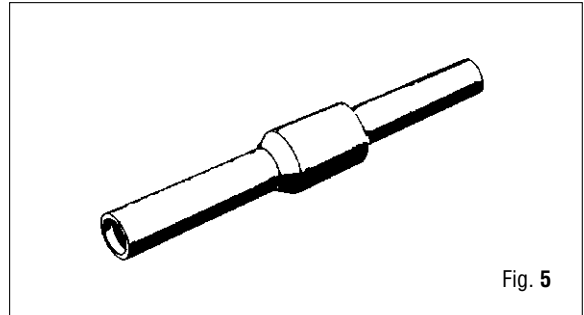
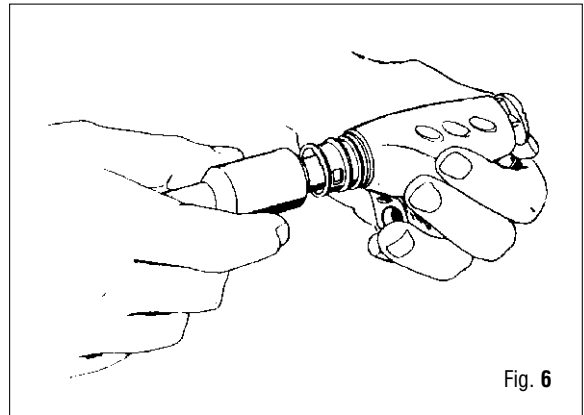

Fig. 5
Fig. 6
9. Remove spring (48) from the anchoring bushing (47).
10. With special tool (P/N 106190 Fig. 5) or needle nose pliers, compress the deflate button retaining tabs and remove deflate button (52) from bushing (49) (Fig. 6).
11. Remove O-ring (50) from bushing (49).
12. Remove O-ring (51) from deflate button (52).
13. Remove the male QD cap (27) from the male QD (13) and using a 14 mm hex wrench, unscrew the male QD connector.
14. Remove O-ring (9) from the connector.
15. Remove the filter (22) from the inflator body.
16. Remove the male QD cap (27) and LP hose clip (62) from the corrugated hose (60) only if the male QD cap, LP hose clip or corrugated hose are to be replaced.
17. If the anchoring bushing (47), corrugated hose (60), RE valve plate (63) or actuating cable (66) are to be replaced, cut the cable near the anchoring bushing.
15. Place O-ring (50) on bushing (49).
16. With special tool (P/N 106190 Fig. 5) or needle nose pliers, insert bushing (49) with O-ring (50), facing the deflate button, into the inflator body until the deflate button retaining tabs engage the bushing (Fig. 8-9).
17. Place the spring (48) on the anchoring bushing (47) and insert the anchoring bushing with spring into the inflator body until the locking tabs engage the inflator body. Depress the deflate button and release. The deflate button should return to its original position. If it does not return to its original position repeat steps 12-16 making sure all parts are in the correct location.